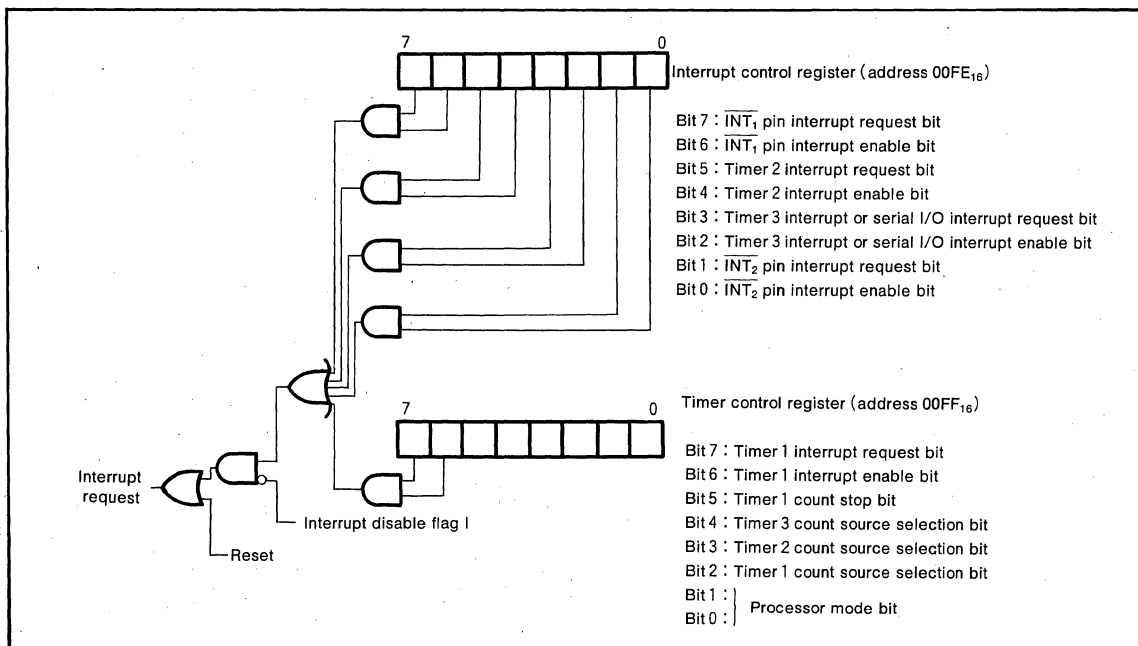

Fig. 3 Interrupt control
When an interrupt is accepted, the contents of certain registers are pushed into specified locations, as discussed in the stack pointer section, and the interrupt disable flag (1) is set, and the program jumps to the address specified by the interrupt vector, and the interrupt request bit is cleared automatically. The Reset interrupt is the highest priority interrupt and can never be inhibited. Except for the Reset interrupt, all interrupts are inhibited when the interrupt disable flag is set to "1". All of the other interrupts can further be controlled individually via the interrupt control register shown in Figure 3. An interrupt is accepted when the interrupt enable bit and the interrupt request bit are both "1" and the interrupt disable flag is "0". The interrupt request bits are set when the following conditions occur:
- (1) When the  $\overline{INT}_1$  or  $\overline{INT}_2$  pins go from "H" to "L"
- (2) When the levels any pin of P2 goes "L" (at power down mode)
- (3) When the contents of timer 1, timer 2, timer 3 or the counter of serial I/O go to "0"